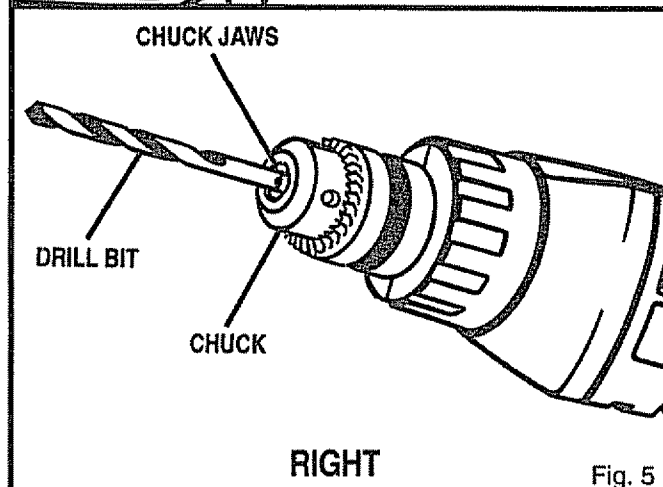

Fig. 5
See Figure 5.
- Insert drill bit into chuck the full length of the jaws as shown in Figure 5.